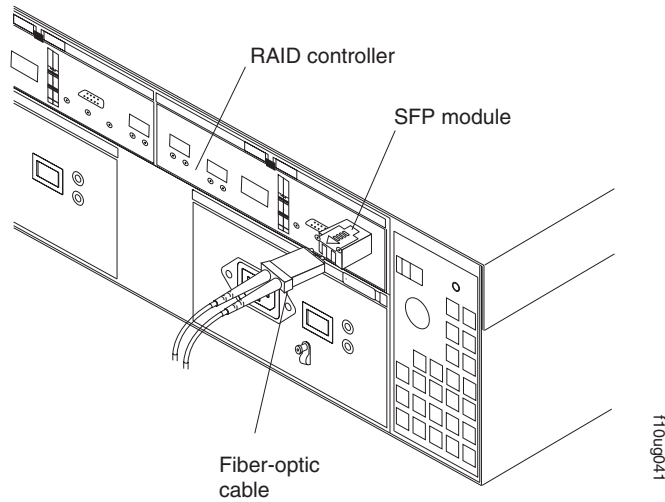

Figure 21. Installing an SFP module into the host port
4. Insert the SFP module into the host port until it clicks into place. See Figure 21 on page 34.